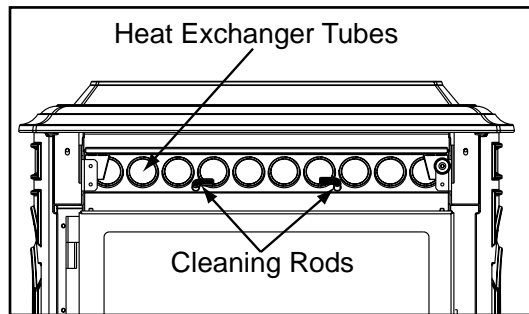

Figure 4.1
1. Locate the 2 rods directly underneath the heat exchanger tubes. Rods are bent at a 90° angle for easy handling. **Figure 4.1.**